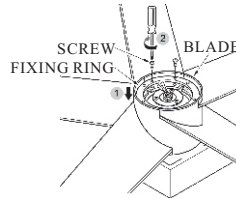

FIG.2
2. Assembe the fixing ring with blades. Make sure the 10 screw holes align with blades.(See fig.2)